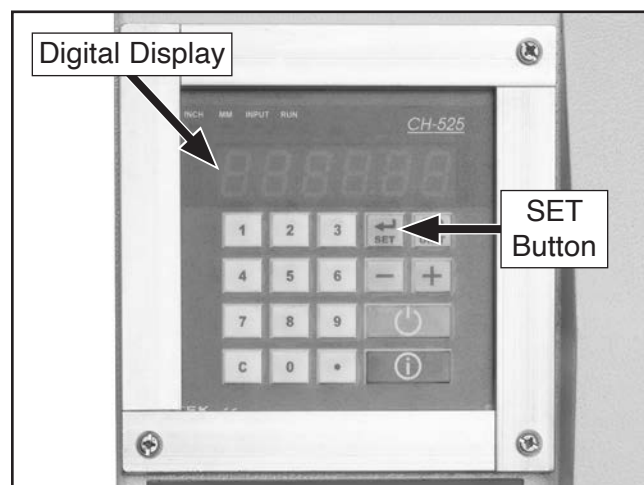

Figure 84. Location of SET button and digital display.
4. Press SET button on keypad (see **Figure 84**). Digital display should reset to zero.